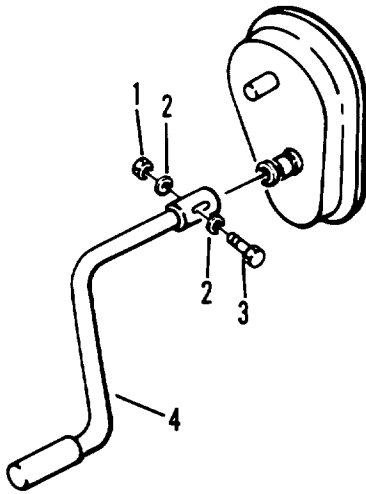

Figure 4-42. Crank
- (1) Block semitrailer on jack stands.
- (2) Block wheels with chock blocks to prevent movement of semitrailer.
- (3) Lower landing legs for greater stability.
- (4) Remove float pad from bracket for easier access to landing leg.
- (5) Remove nut (1, figure 4-42), washers (2) and bolt (3).
- (6) Remove crank (4).
- (1) Install crank (4, figure 4-42).
- (2) Secure crank (4) with bolt (3), washers (2) and nut (1).
- (3) Install float pad in bracket.